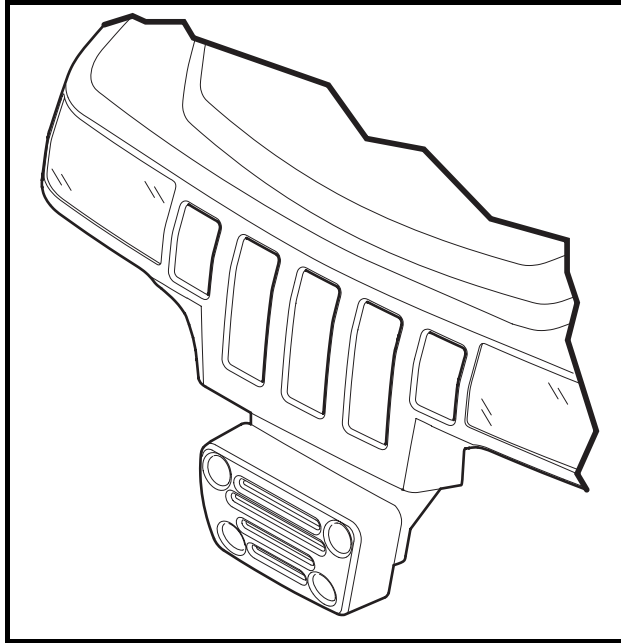
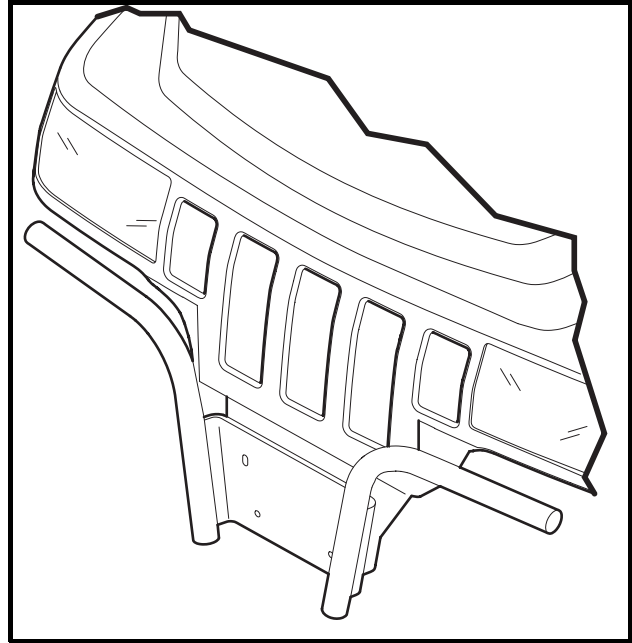

Figure 3 Bumper
Figure 4 Brush Guard
- Do not operate the vehicle without an installed front bumper or brush guard that is specifically designed and approved for use on this vehicle. Instability in the vehicle could cause serious injury or death (Figure 3 and Figure 4).
The front bumper and brush guard are an important part of the vehicle's design for correct weight distribution. These parts are interchangeable, but one or the other must be installed at all times during vehicle operation to achieve proper balance (Figure 3 and Figure 4). See following **WARNING**.